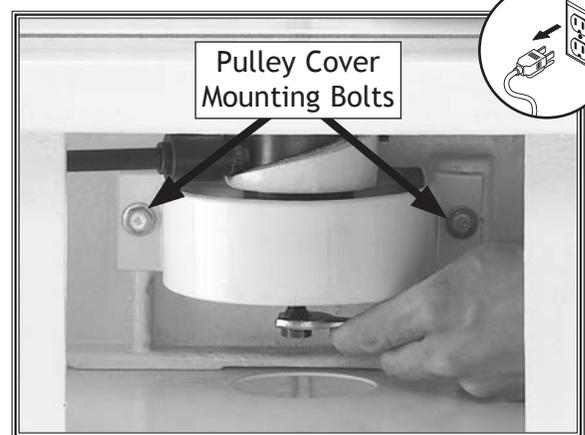
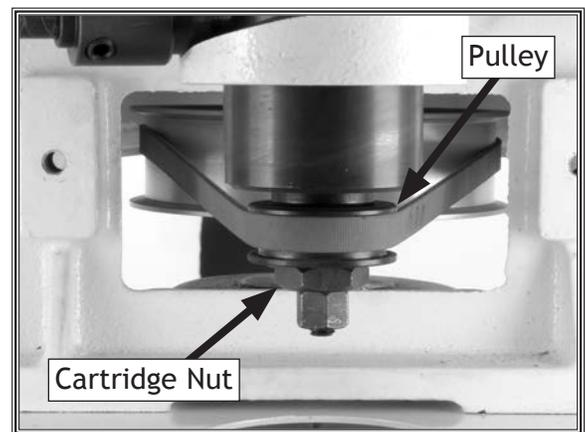

Figure 56. Location of pulley cover mounting bolts.
Figure 57. Location of cartridge nut and pulley.
3. Take off spindle pulley cover by removing (2) mounting bolts shown in **Figure 56**.
4. Loosen (2) motor mount bolts, slide motor forward, and remove V-belt.
6. Remove cartridge nut on bottom of spindle, as shown in **Figure 57**, and slide pulley off.